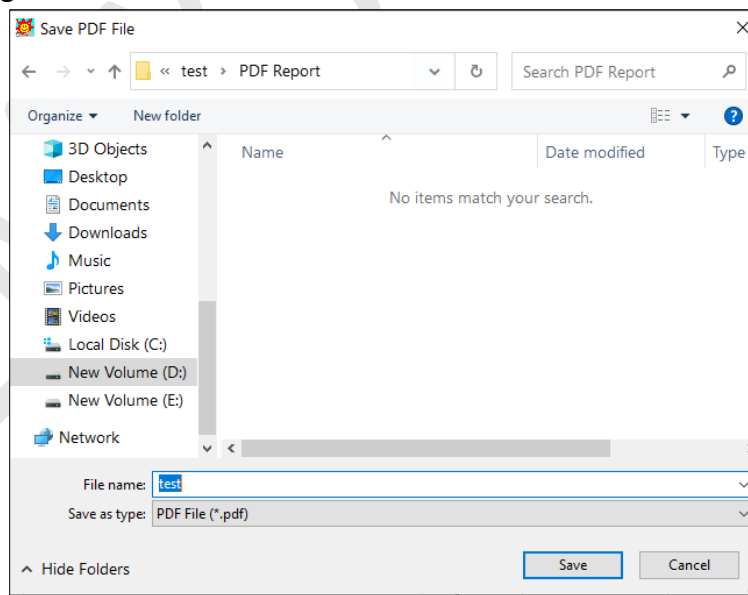

Figure 24 Selecting file location for saving PDF report
- After that and generate the PDF report of data summary by clicking on  icon. A pop up window will appear for selecting the file path and filename of report to be generated as shown in figure 24.